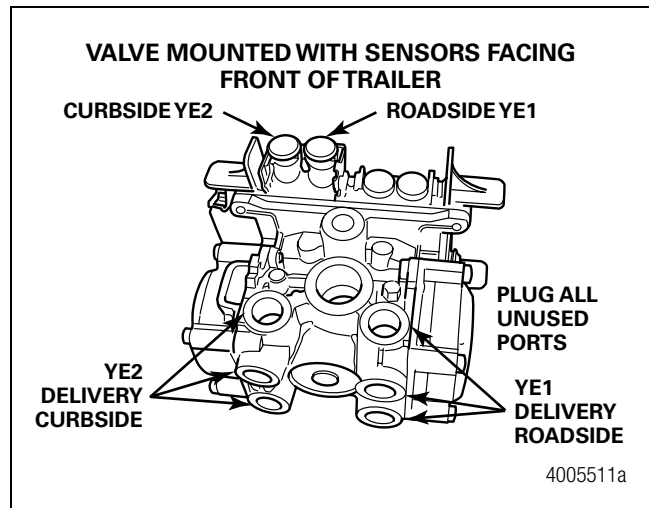

Figure 20
- If the ECU/dual modulator valve assembly is mounted with the sensors facing the FRONT of the trailer, the air lines for the three delivery ports located under the YE2 sensor connector must be routed to CURBSIDE; the air lines for the three delivery ports on the opposite side of the valve must be routed to ROADSIDE. Figure 20.